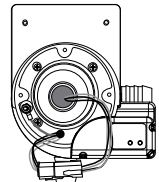

Figure 2
2. Once the UV bulb has cooled off remove the CLEARRAY System enclosure cover (2) by removing the four screws (1). This will expose the UV bulb and connections, Figure 2.